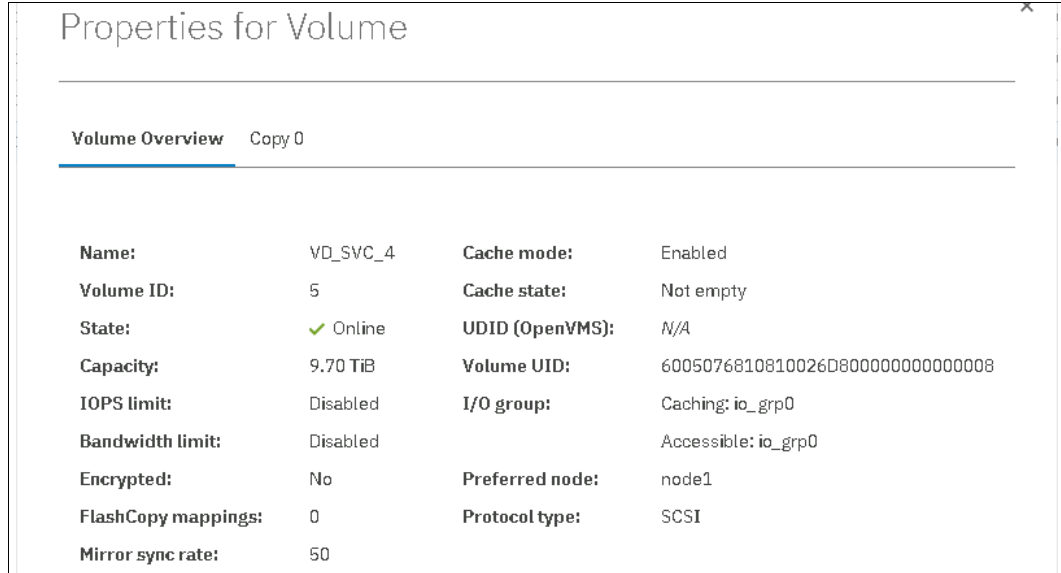

Figure 4-8 IBM FlashSystem volume details
In this example, the number is 0000000000000002, as shown in Figure 4-8.
1. From the back-end IBM FlashSystem side, check the Volume UID field for the volume that was presented to the virtualizer, as shown in Figure 4-8.